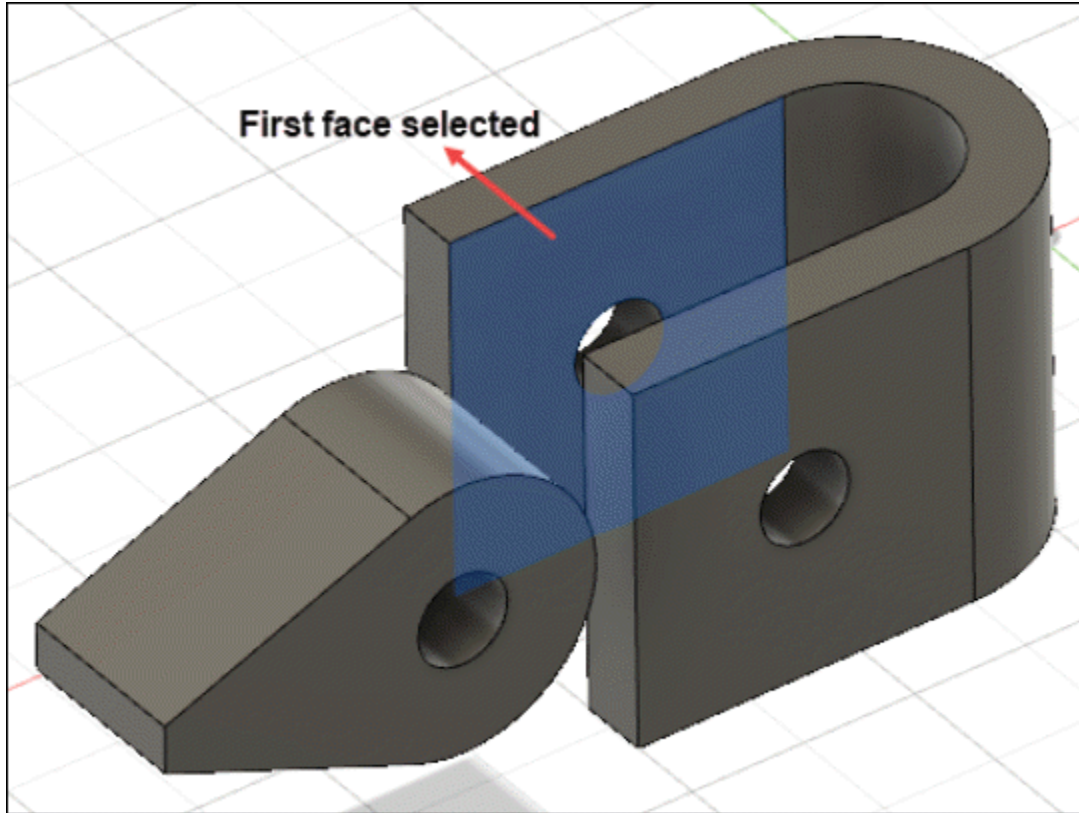

Figure-29. Selection of first face
- The **Select** button of **Plane 1** section is active by default. Click on the first face from model to select; refer to Figure-29.